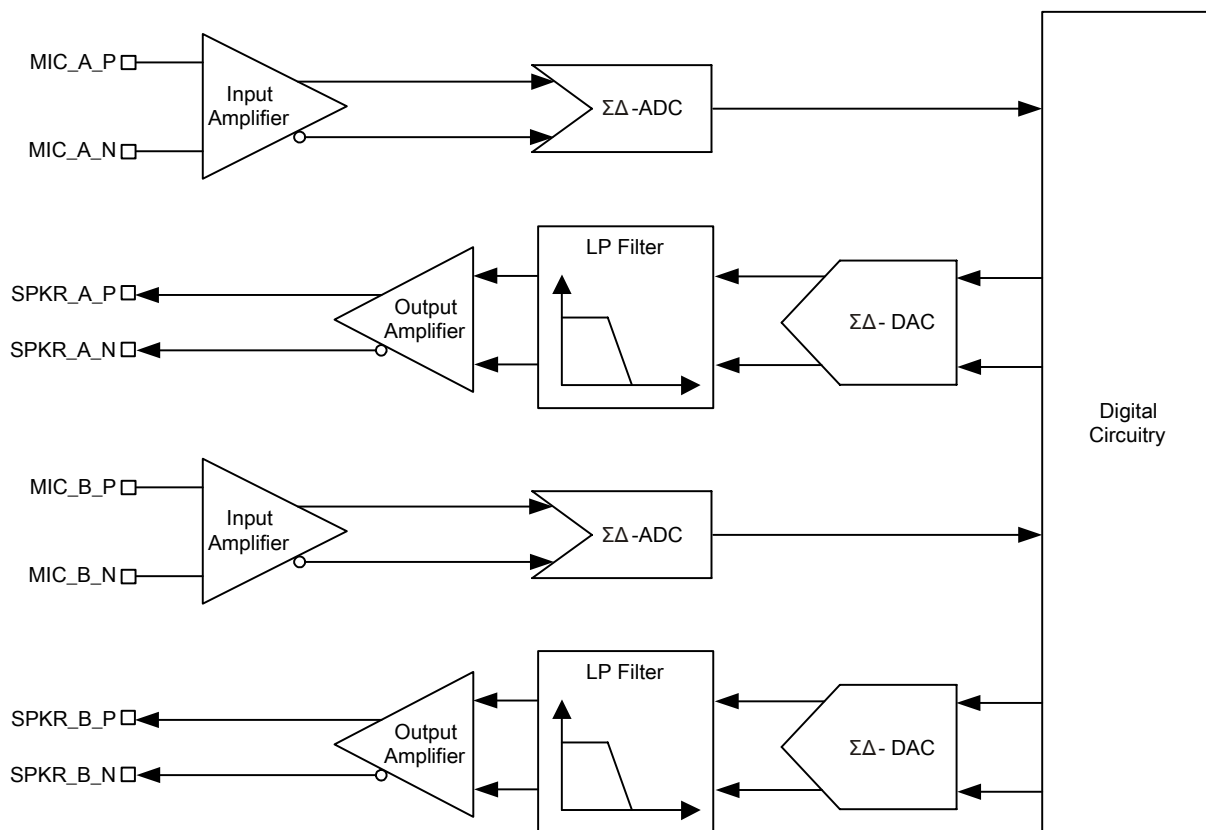

Figure 10.2: Stereo Codec Audio Input and Output Stages
- 2 second-order Sigma-Delta converters allowing 2 separate channels that are identical in functionality, as Figure 10.2 shows.